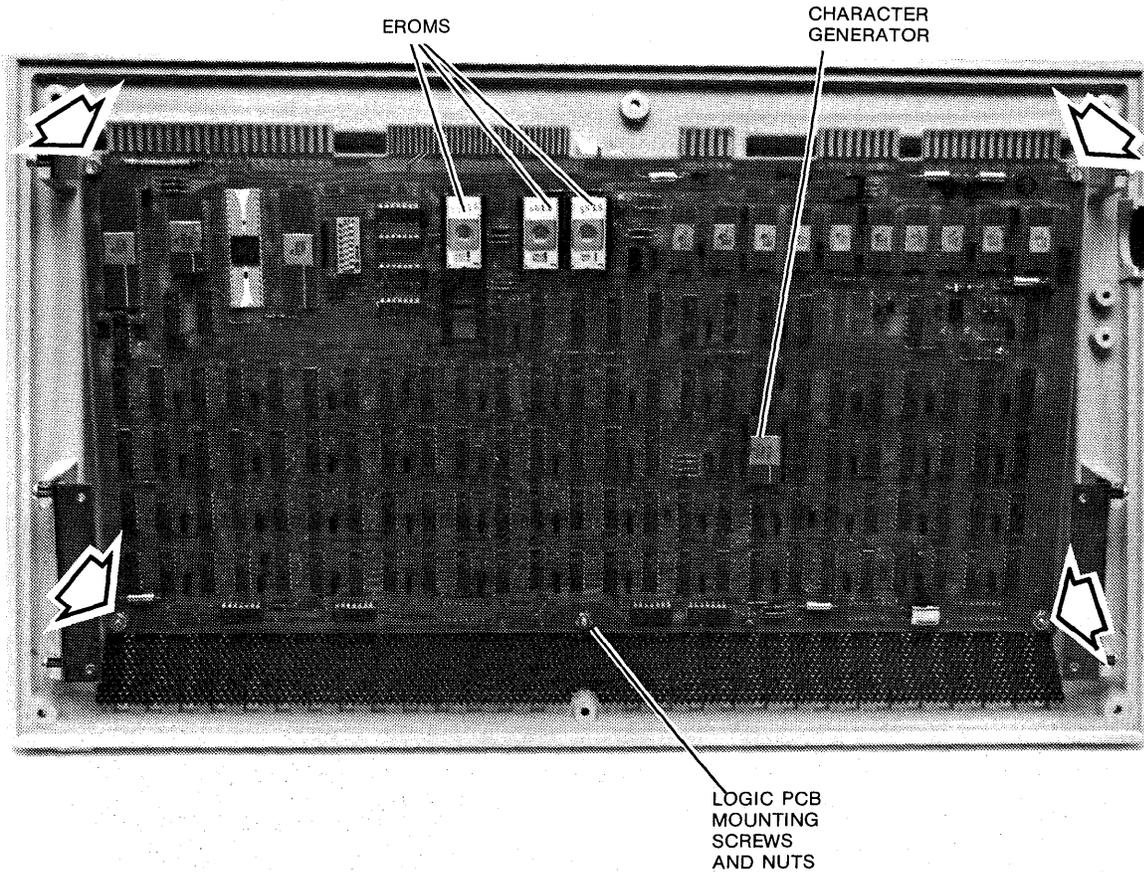

FIGURE 4-6. REMOVAL OF LOGIC PCB
7. Remove the logic PCB by taking out the screws and nuts shown in Figure 4-6.
If removing or replacing any of the three EROMs or the character generator (shown in Figure 4-6), make sure the area is static-free. These are static-sensitive devices.